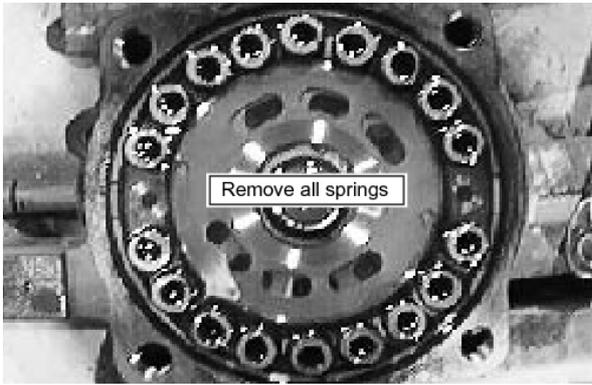

Fig. 8-15
10. Carefully remove all brake springs and place in a container filled with fresh, clean hydraulic oil. Then, seal the container to prevent contamination. See Fig. 8-15.